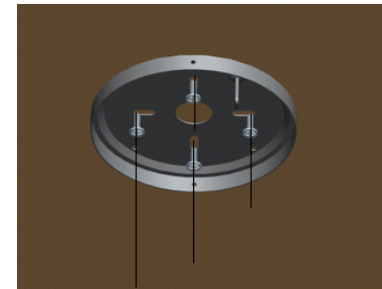

Fig 6.1
**Option 1:** Fasten the mounting plate with the wood setscrews (included) when securing to the wooden ceiling beam or support structure with an approved electrical outlet box as shown in Fig 6.1.